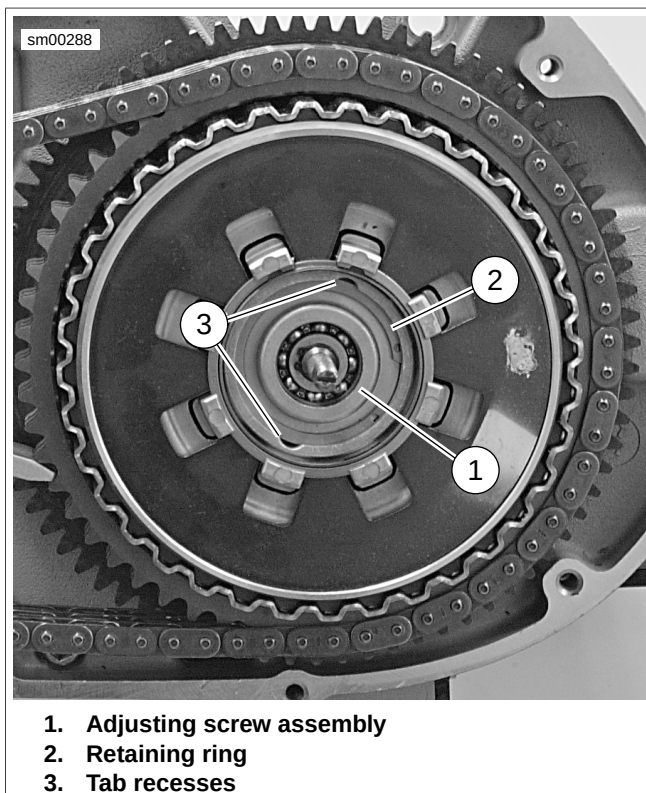

Figure 5-41. Clutch Adjusting Screw Assembly and Retaining Ring
- a. Remove and discard small retaining ring (6).
- b. Separate the adjusting screw (8) from the bearing (7) and release plate (5).
- c. Remove bearing (7) from release plate (5).
- a. See Figure 5-41. Align two tabs on perimeter of release plate with corresponding recesses (3) in pressure plate.
7. See Figure 5-41. Install adjusting screw assembly in pressure plate, noting that two tabs on perimeter of release plate must be inserted into corresponding recesses in pressure plate. Secure assembly with a **new** retaining ring.